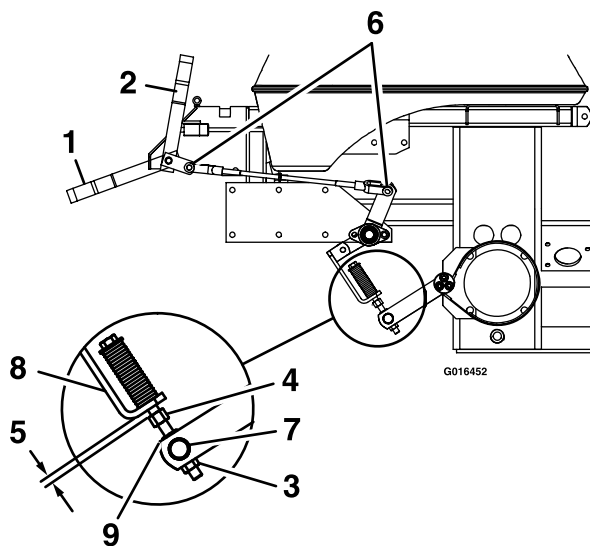

Figure 21
8. Loosen the jam nut (item 9 in Figure 21) just above the trunnion roller 2-3 turns.
9. Tighten the bottom nyloc nut (item 3 in Figure 21) until the brake spring is completely compressed, then loosen one-half turn.